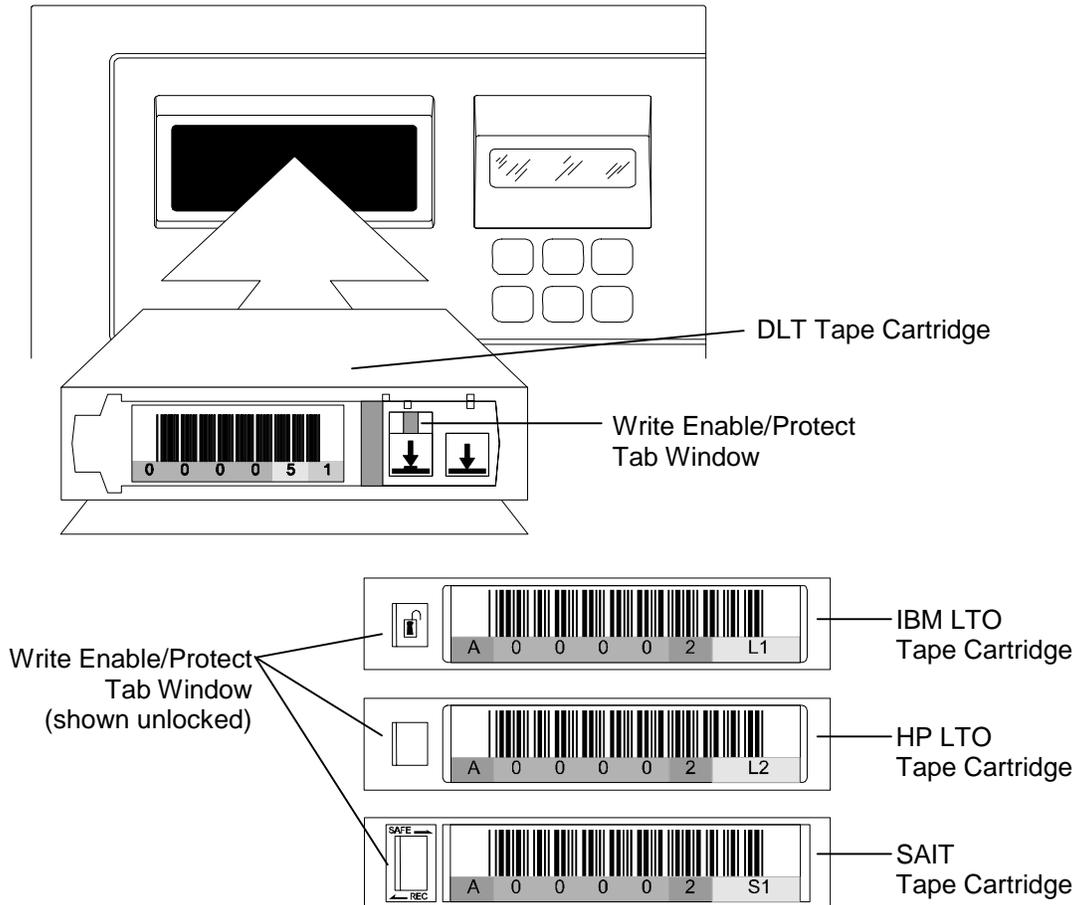

Figure 6-3 Inserting a Tape Cartridge into the I/O Port
2. Make certain the Write Enable/protect tab on the tape cartridge is set correctly (see Figure 6-3), then fully insert the tape cartridge into the I/O port slot as shown (Write Enable/Protect tab facing out and on the right-hand side).